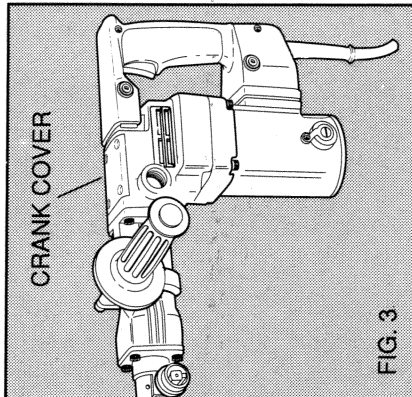

FIG. 3
2. Remove the crank cover shown in Figure 3.